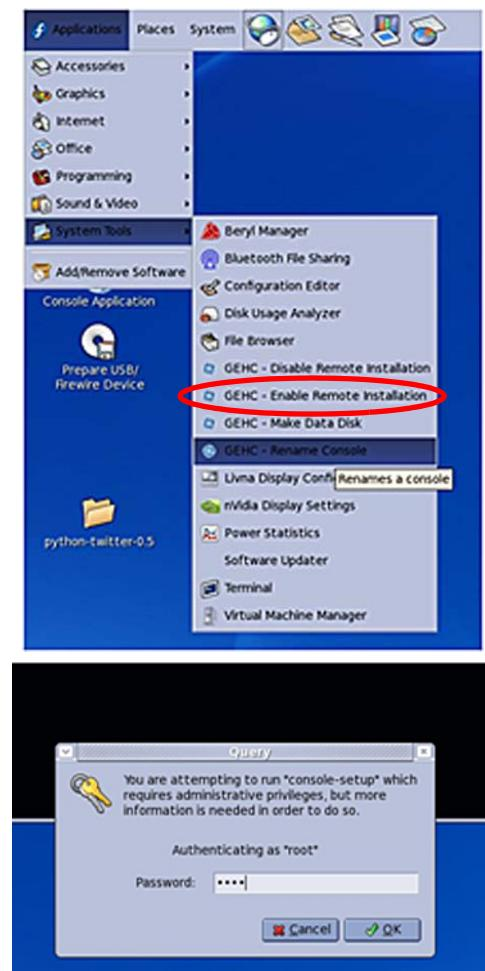

Figure 5-6
4. On the Console computer, select “Application – System Tools – Enable Remote Installation”. Enter the password: **operator**. (Figure 5-6). Note that the password dialog box may not appear. In this case, the system caches the password, so it is not needed to continue.